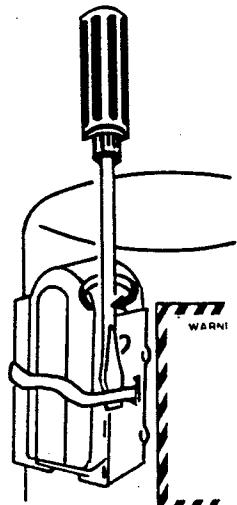

Figure 64. Compressor Terminal cover
1. Remove the compressor terminal cover by inserting a standard screwdriver under the terminal cover retaining clip from the left side of the freezer and gently pry off (Fig. 64).